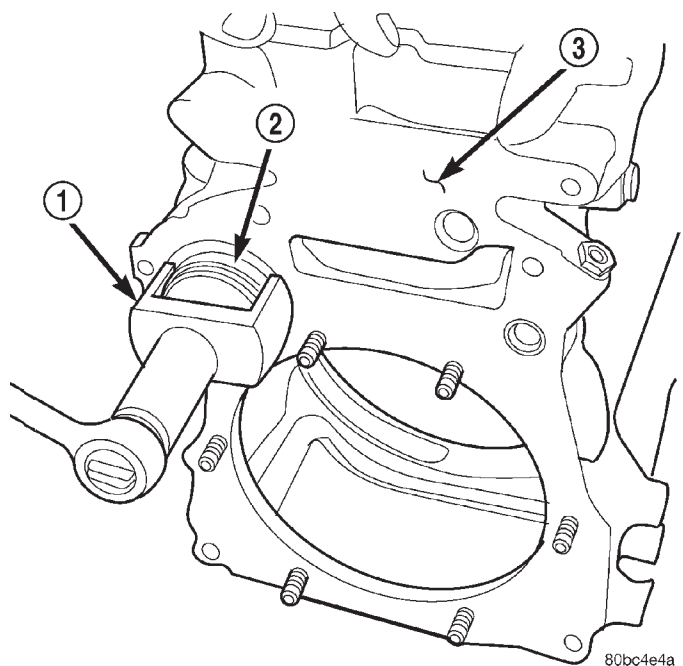

Fig. 82 VM.1040
(1) With the engine completely disassembled, install the Camshaft Bearing Remover/Installer Tool VM.1040 (Fig. 82).